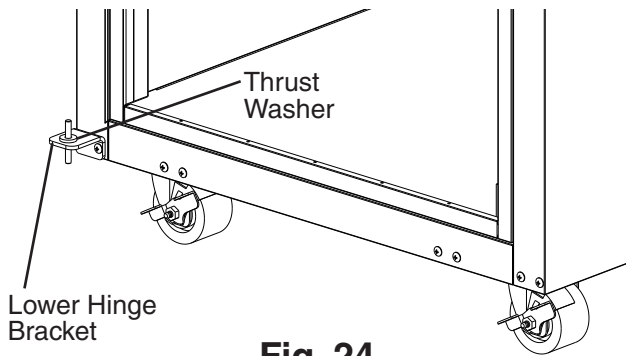

Fig. 24
- 9) Make sure the thrust washer is in place, then mount the door onto the lower hinge bracket (nylon bearing over lower hinge bracket pin). See Fig. 24.